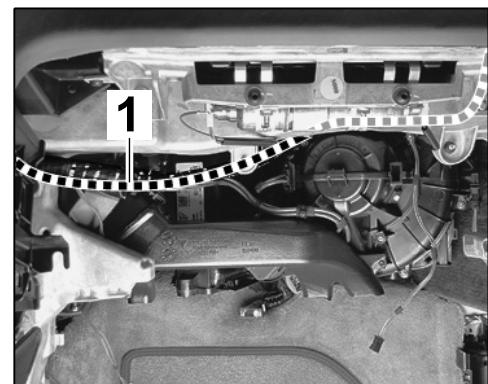

Figure 6
2.3.2 Route GPS antenna line \Rightarrow Figure 6 -1- along the wire harness for the dashboard (glove compartment).